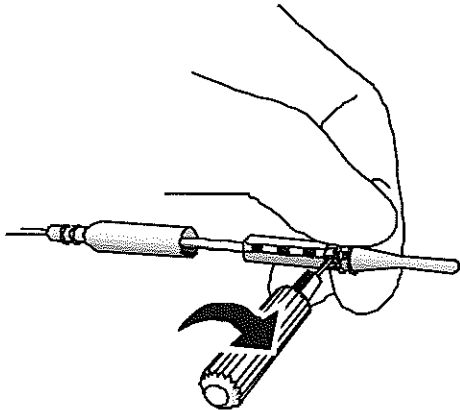

Figure 28: Tighten setscrew.
5. Tighten the single setscrew in the setscrew socket on the number 3 lead contact by turning it clockwise with the hex wrench provided (Figure 28). Tighten the setscrew until it touches the contact; then continue tightening for a maximum of 1/4 turn only.